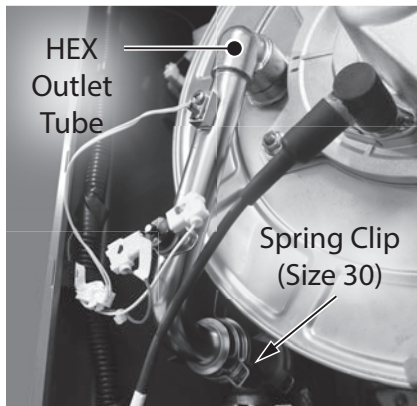

Figure 192 - Remove spring clip securing HEX outlet tube
- 22** Locate the HEX outlet tube connected to the heat exchanger as shown in Figure 192 on the following page. Remove the spring clip (size 30) securing HEX outlet tube to mixing tee. Remove spring clip and place aside in a safe place for reinstallation.